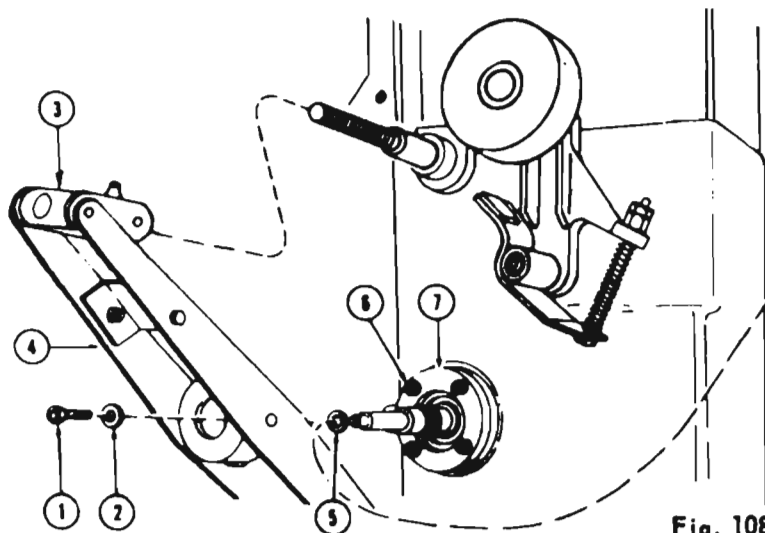
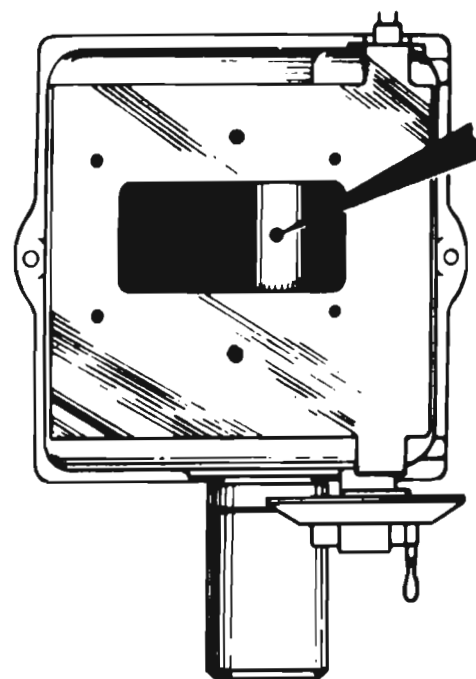

Fig. 108
Fig. 109
3. Remove screw (1) and washer (2) from back end of feed rod (Fig. 108).
4. Turn Feed Dial counter-clockwise (left) until adjusting nut (3) and feed arm assembly (4) are disengaged. Remove washer (5) from feed rod. Remove drive belt.
5. Release spindle brake. Reach down into machine and insert bar in hole located in center of spindle shaft (Fig. 109). Do not allow bar to press against feed screw--it may bend feed screw and cause erratic honing dial readings. Use bar as lever to keep shaft from turning and unscrew pulley, counter-clockwise, about three turns.
10. (Fig. 108) Remove four screws (6) from rear bearing retainer plate (7) and pull bearing out of housing.